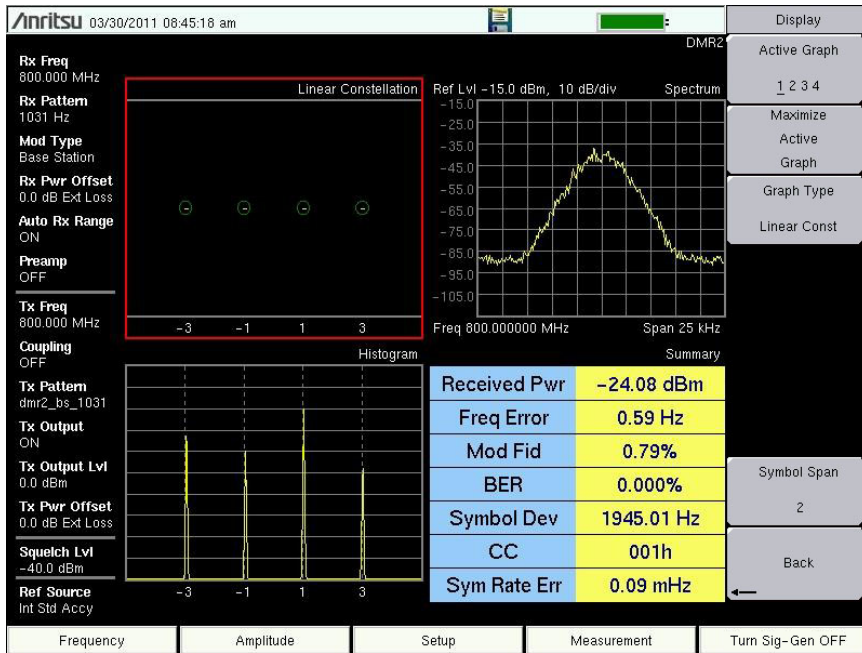

Figure 3-11. Analyzer Measurements (Active Graph has the Red Outline)
- Press the **Measurement** main menu key, then press the NBFM Analyzer submenu key. Press Graph Type to set the displayed graph types (Figure 3-11).
1. Press the **Measurement** main menu key, then press the P25 Analyzer, P25p2 Analyzer, NXDN Analyzer, dPMR Analyzer, DMR 2 Analyzer, PTC Analyzer, or the TETRA Analyzer submenu key. Press Graph Type to set the displayed graph types (Figure 3-11).